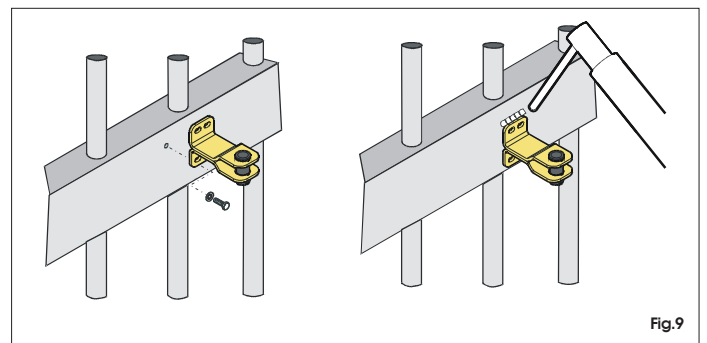

Fig.9
- Remove the fitting from the operator and fit it on the leaf. The fitting can be either welded directly or screwed on, using the threaded inserts (Fig. 9).